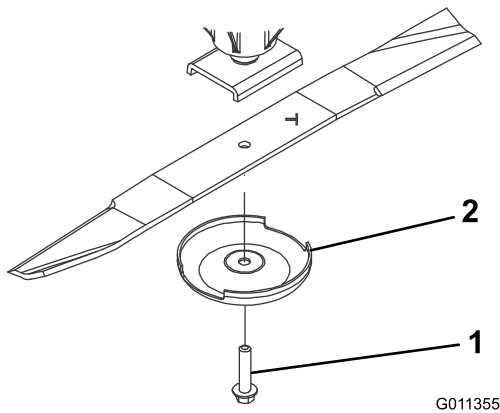

Figure 61
2. Grasp the end of the blade using a rag or thickly padded glove. Remove the blade bolt, anti-scalp cup, and blade from the spindle shaft (Figure 61).
3. Install the blade, sail facing toward the cutting deck, with the anti-scalp cup and blade bolt (Figure 61). Torque the blade bolt to 115 to 149 N·m (85 to 110 ft·lb).